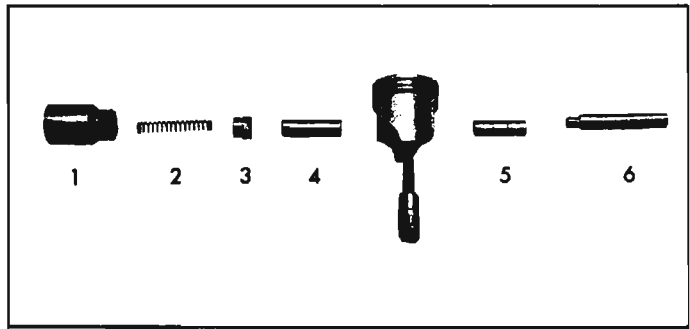

Fig. 6A-72—Piston Pin Assembly
5. Place support on an arbor press (fig. 6A-72), start pin into piston and press on installer until piston pin pilot bottoms.